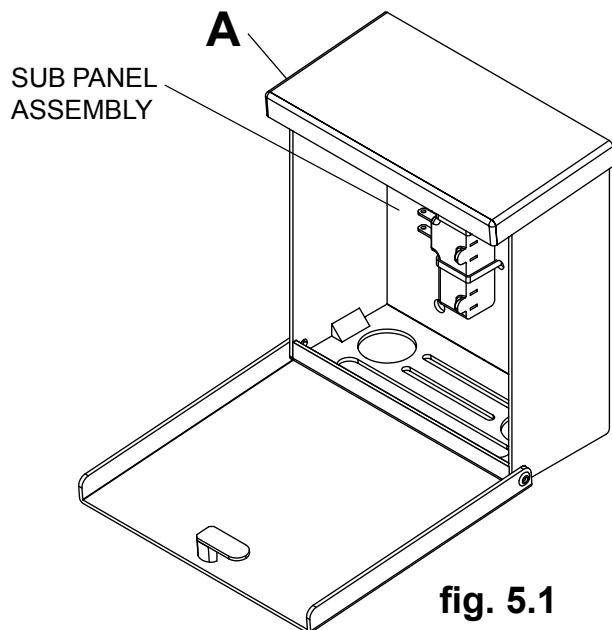
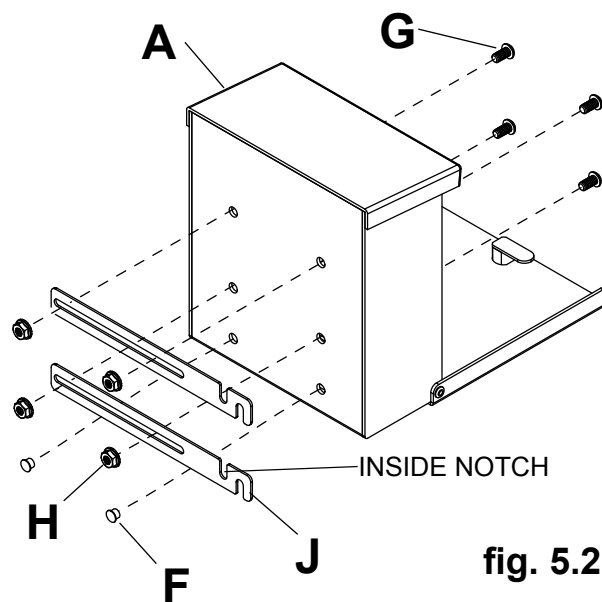

fig. 5.1
fig. 5.2
- 5** Open the wireless receiver enclosure (A) and remove the sub panel assembly as shown in fig. 5.1. Loosely attach two enclosure mounting brackets (J) to the wireless receiver enclosure (A) with two 1/4-20 x 1/2 socket head screws (G) and two 1/4-20 nuts (H) as shown in fig. 5.2. **NOTE:** The enclosure mounting bracket can be installed with the inside notch facing downward if additional side-to-side adjustment is needed. Position and tighten the four 1/4-20 x 1/2 socket head screws (G) using 4mm allen wrench (L). Press in two plastic plugs (F) into holes shown in figure 5.2.